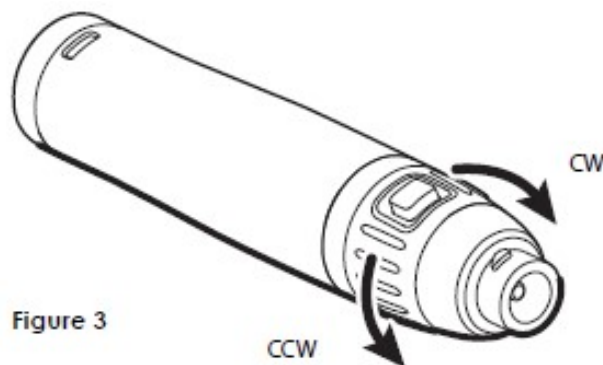

Figure 3
2. Turn the Rheostat Section counterclockwise until it detaches from the Battery Section (Figure 3).
2. To connect the two sections, turn the Rheostat Section clockwise until tight (Figure 3).